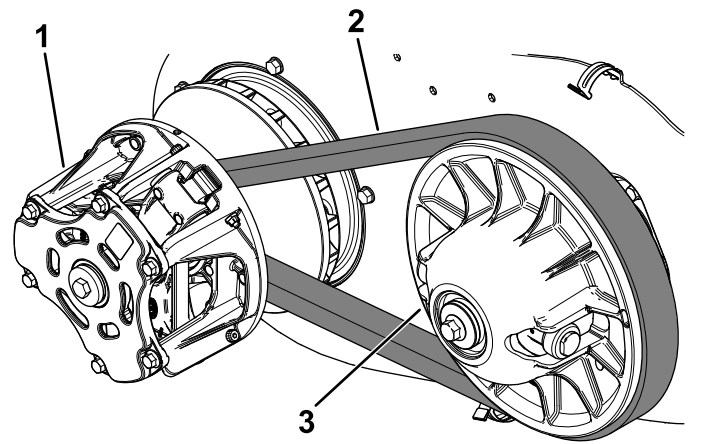

**Figure 111**
5. Unlatch the 6 spring clips securing the belt cover and remove the cover (Figure 111).
8. Install the belt cover (Figure 111).
10. Install the belt cover (Figure 111).